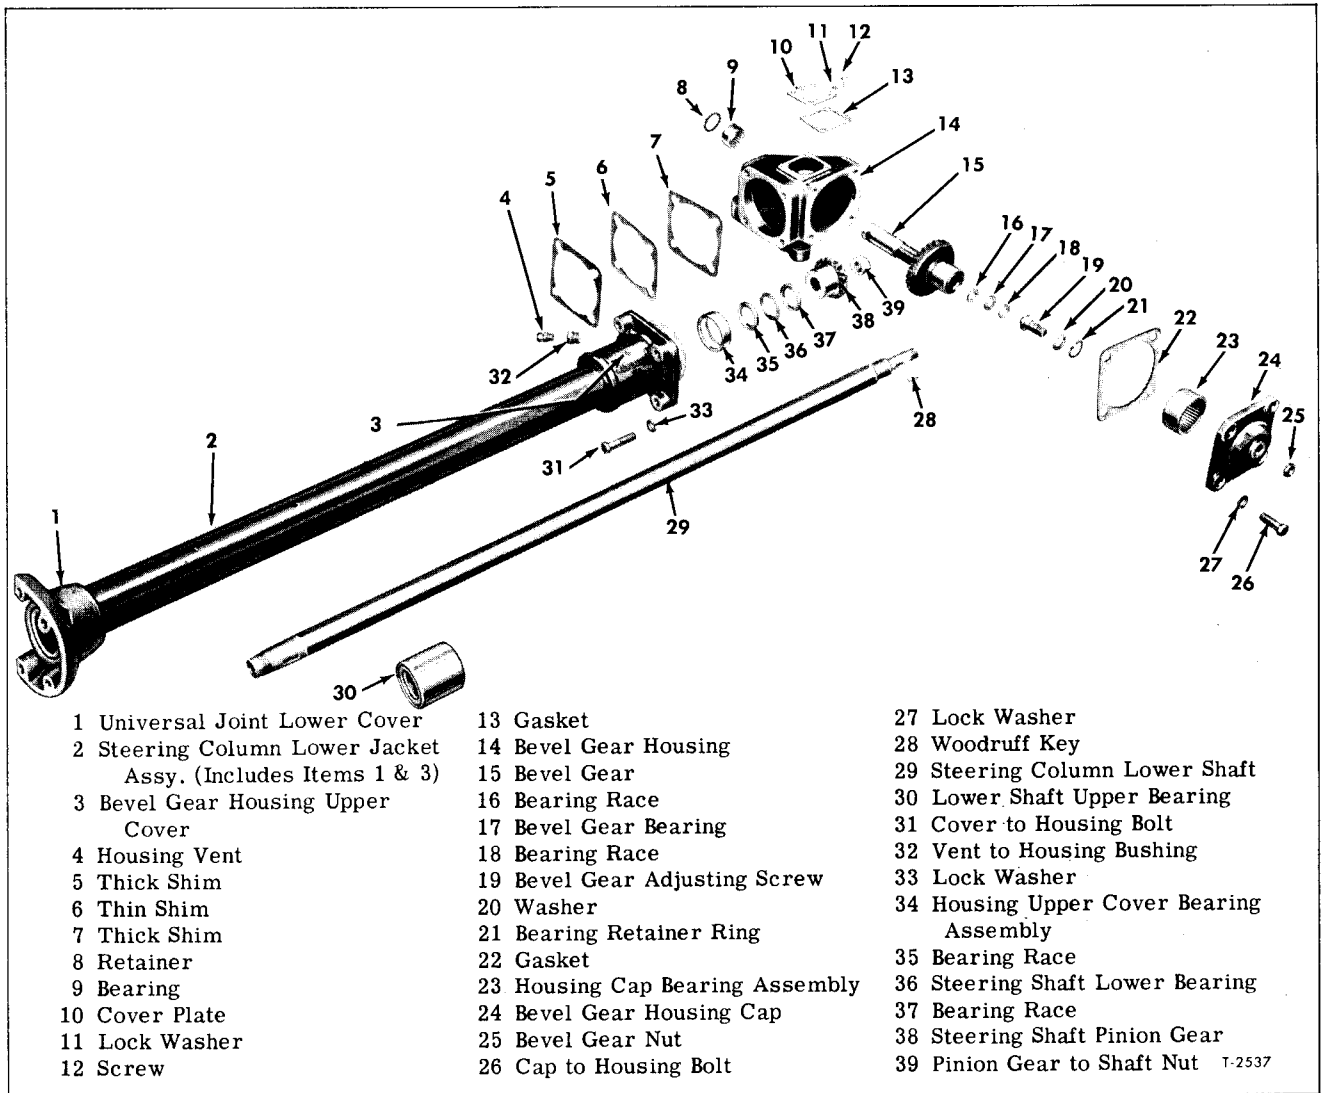

Figure 6—Lower Column and Bevel Gear Components
Key numbers in text refer to figure 6.
6. Check distance from top of upper jacket to shoulder on upper shaft. If not 1.87" as shown in figure 6, loosen clamp bolt in universal joint upper housing and adjust jacket in housing to obtain correct dimension. Tighten clamp bolt to torque listed in "Specifications."